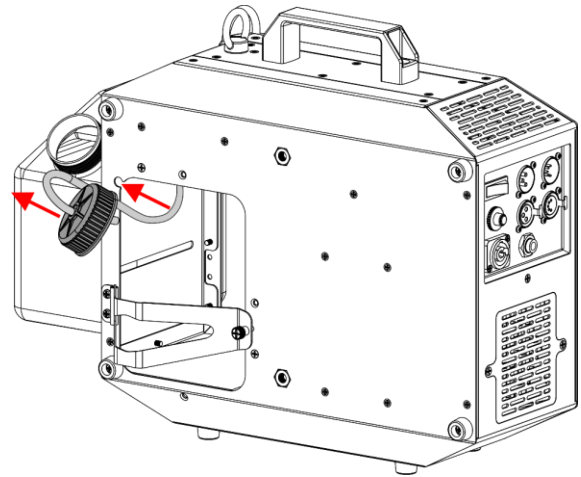

Fig. 17
- 12) Slide the rubber hose and the lid to the back of the device, as shown in Fig. 17.